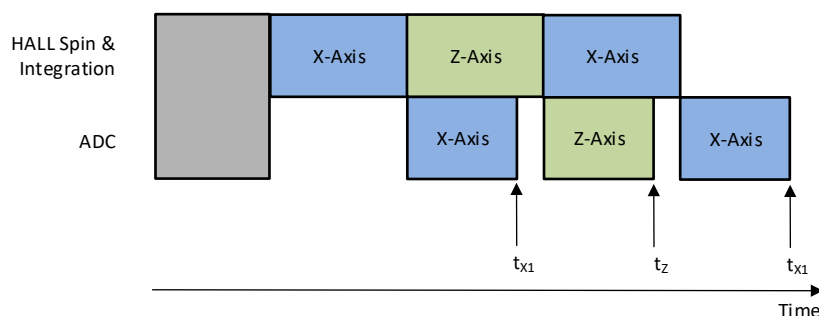

图 8-3. XZX Magnetic Field Conversion
In absolute angle measurement, application sensor data from multiple axes are required to calculate an accurate angle. The magnetic field data collected at different times through the same signal chain introduces error in angle calculation. The TMA5170 offers pseudo-simultaneous sampling data collection modes to eliminate this error. 图 8-3 shows an example where MAG\_CH\_EN is set at 1101b to collect XZX data. 式 14 shows that the time stamps for the X and Z sensor data are the same.
- $t_{x1}$ ,  $t_z$ ,  $t_{x2}$  are time stamps for X, Z, X sensor data completion as defined in 图 8-3.